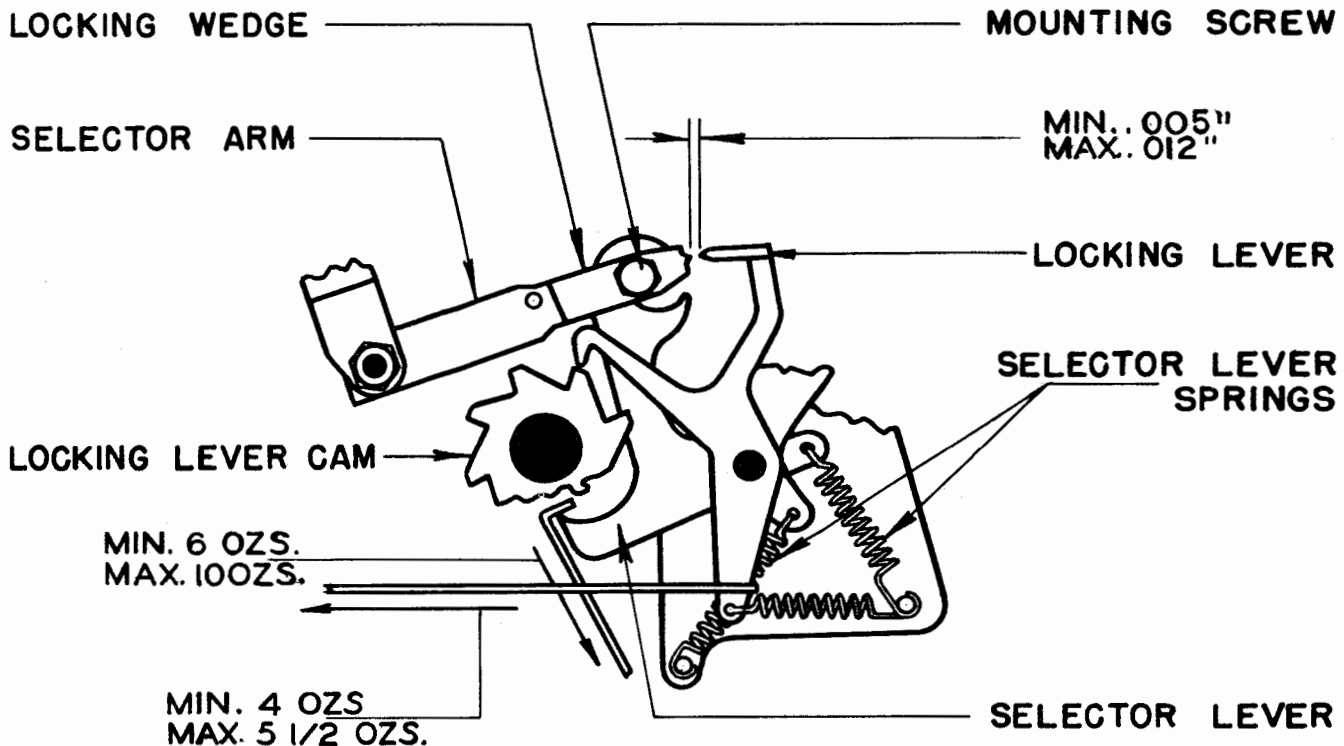
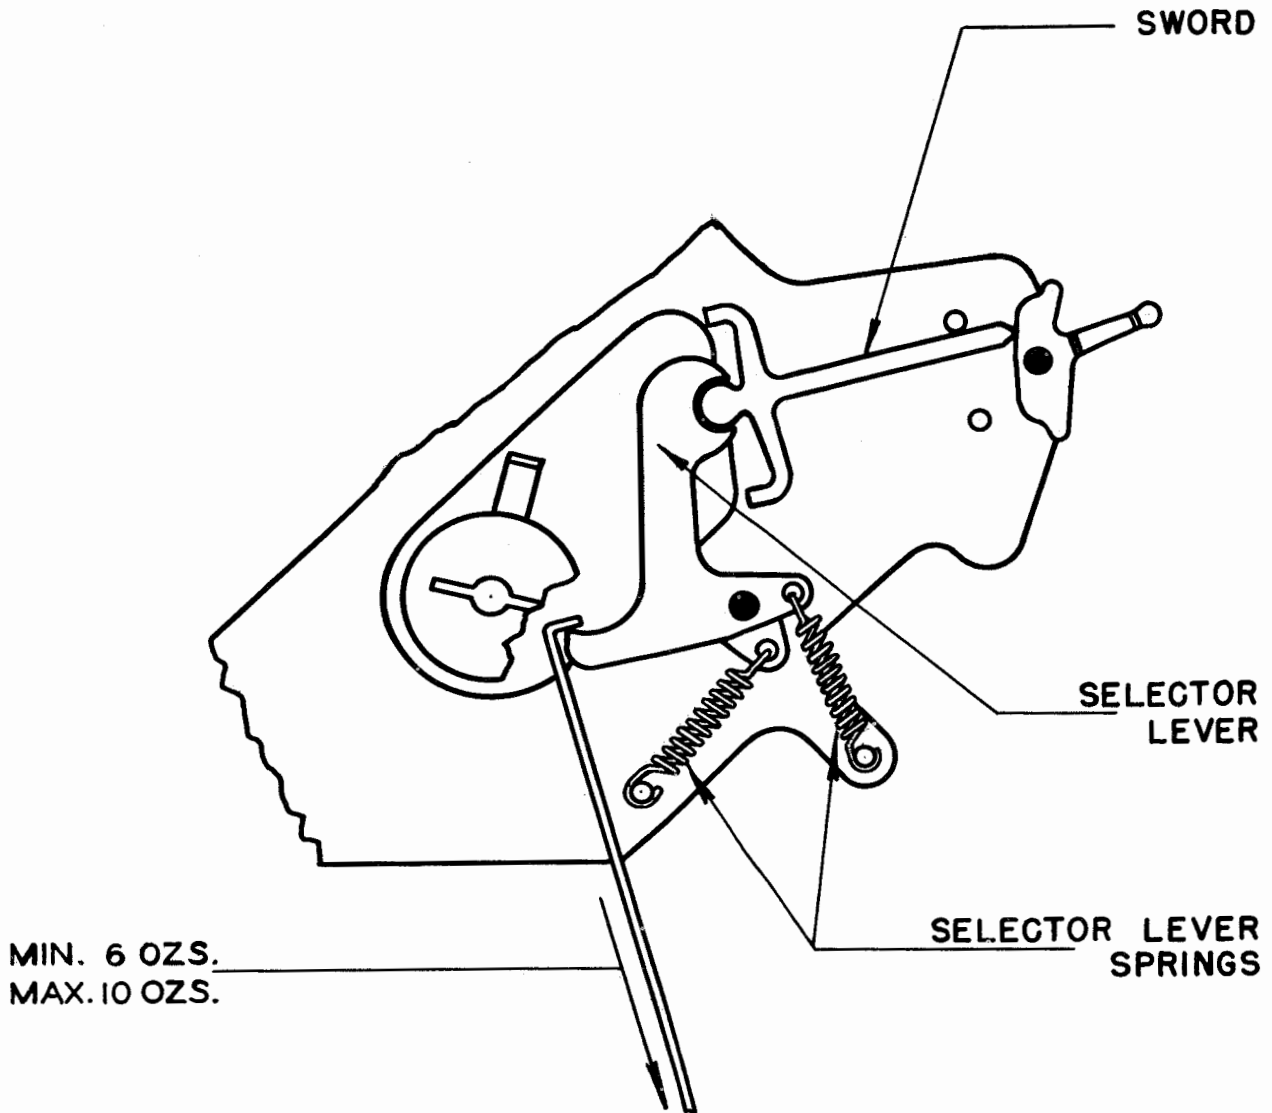

Figure 2
Figure 3
extreme forward position (main shaft mounted horizontally) or highest position (main shaft mounted vertically) and the swords moved manually to the spacing position, hook a scale over the end of a selector lever at the selector camsleeve and pull radially to the main shaft. It should require minimum 6 ounces, maximum 10 ounces as indicated in Figure 2 (holding magnet) and Figure 3 (pulling magnet), to start the lever moving. Check all selector levers in the same manner.
2.09 Locking Wedge (holding magnet) should clear the locking lever by minimum 0.005 inch, maximum 0.012 inch when the locking lever is resting on the long high part of its cam and the end of the wedge is held in line with the lever. (See Figure 2.)
2.10 Locking-lever Spring (holding magnet) should require minimum 4 ounces, maximum 5-1/2 ounces, as indicated in Figure 2, to start the lever moving away from the high part of its cam.